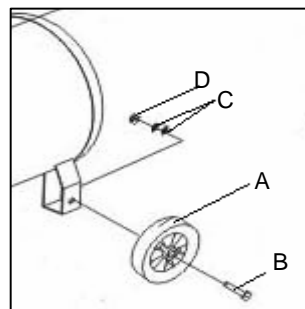

Figure 2
3. Take out two(2) wheels(A), two(2) bolts(B), four(4) washers(C), two(2) nuts(D) from the bag and install them on the foot section of the tank. (See Figure 2)